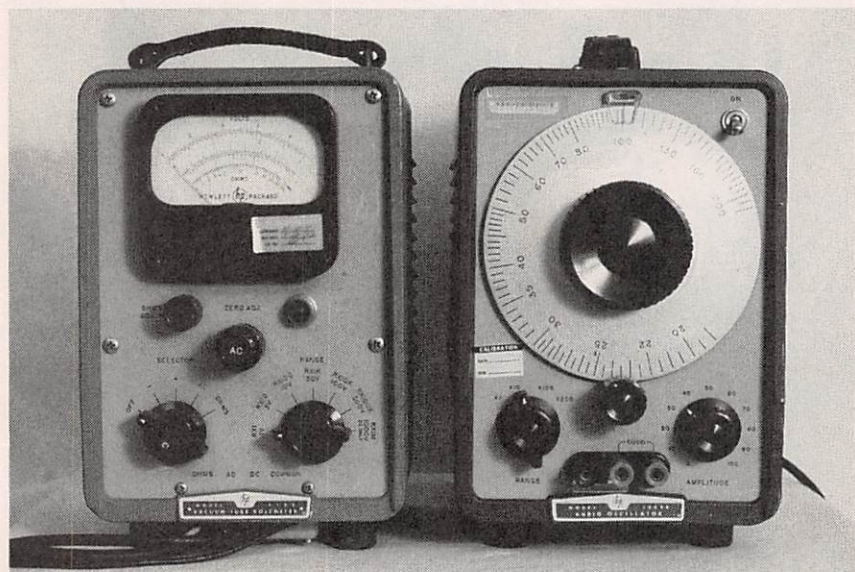

Fig. 3. Two examples of vintage vacuum-tube test equipment from Hewlett Packard: a Model 410 VTVM (left) and a Model 200 audio oscillator.
Two of my own "flea market finds" are shown in Fig. 3: a Hewlett Packard (HP) Model 200 audio oscillator and an HP Model 410 VTVM (vacuum-tube voltmeter). The HP 200 is one of a long-lived series of similar oscillators that were an outstanding success for Hewlett Packard. These were truly "work-horse" machines, rarely requiring service. Many thousands of these were "excessed" by industry when transistorized gear became the standard, but those vacuum-tube units perform about as well as many new designs.